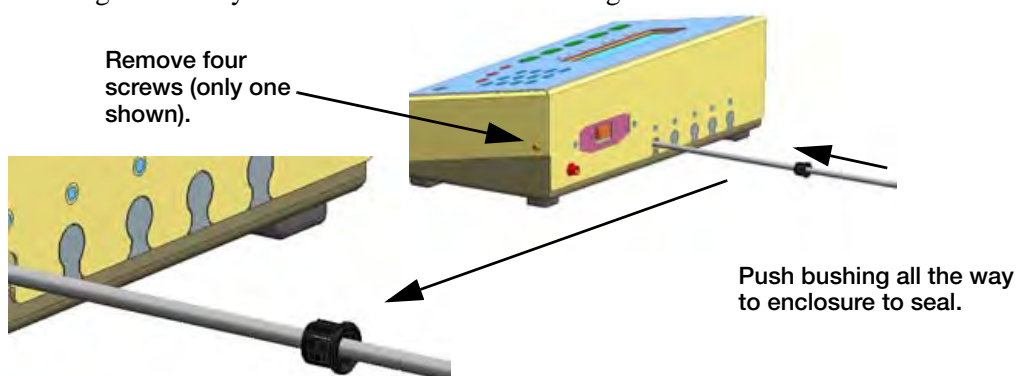

Figure 2-5. Use Plastic Bushings
1. Open the cover assembly by removing the four screws (only one shown in Figure 2-5).